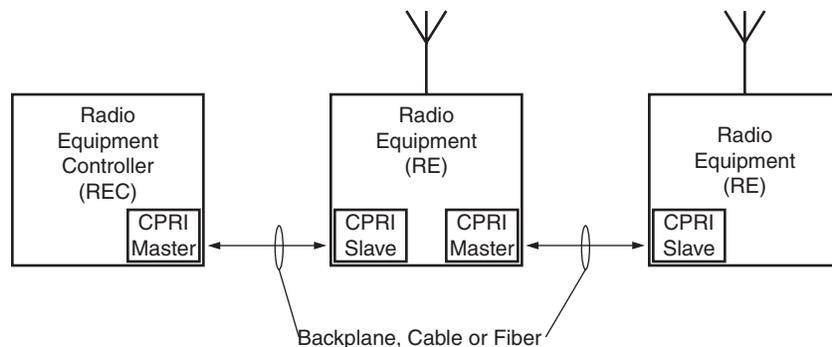

Figure 2: Location of CPRI in a Cellular System
CPRI is an emerging standard for communication between a Radio Equipment Controller (REC) or Base Station and one or more Radio Equipment (RE) units in a 3G cellular network. The concept is to foster an independent technology evolution for cellular equipment products by defining a publicly available specification for the key internal interface between these units. **Figure 2** shows the position of the interface in a cellular system.